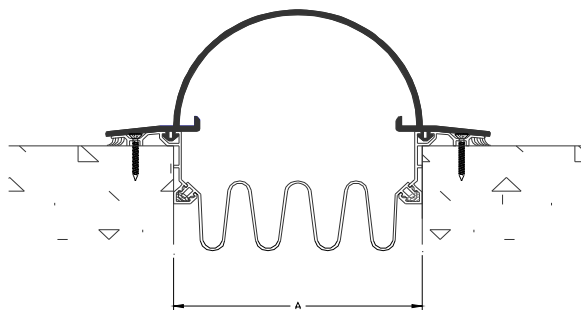

Figure 8
**STEP 14.** Place the roof seal into its installed position. Insert the arrows of the trimmed section of the roof seal into the corresponding base member seal retainer tracks, see Figure 8. Lubricating the face seal's arrows